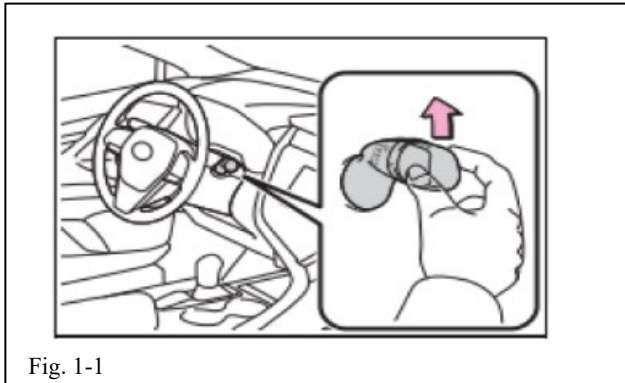

Fig. 1-1
- (1) Hold wiper stalk to “mist” position for two seconds (within 45 seconds of turning the ignition off) (Fig. 1-1).
- (2) Front active spoiler will deploy, allowing access to the engine undercover.